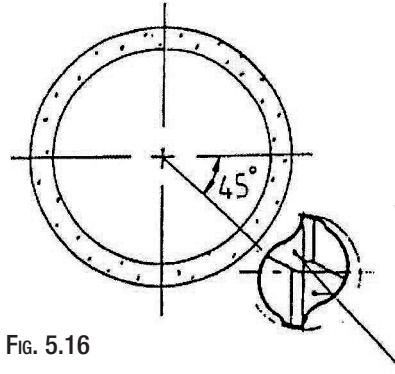

FIG. 5.16
(10) Grinding methods as step (6)–(8).
(11) The width rate between 1st Relief and 2nd Relief face is around 1:2.
(12) The grinding angle of Axial Relief Angle is usually ground by forming a 45° angle between grinding wheel's center and cutter's centre. After the 2nd Relief grinding is finished the rest could be ground by the same steps. (Fig. 5.16)